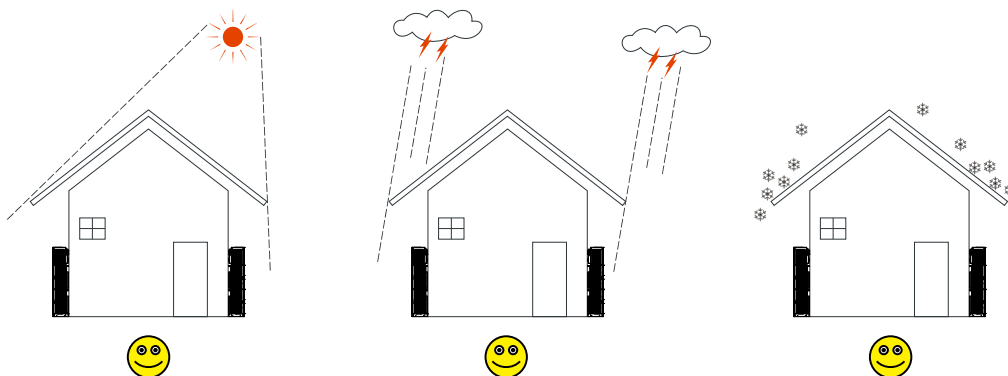

Figure3-2 Recommended installation environment
2. It is suggested to install the iHome product under shade as shown in Figure3-2 to max the iHome product lifespan and efficiency.